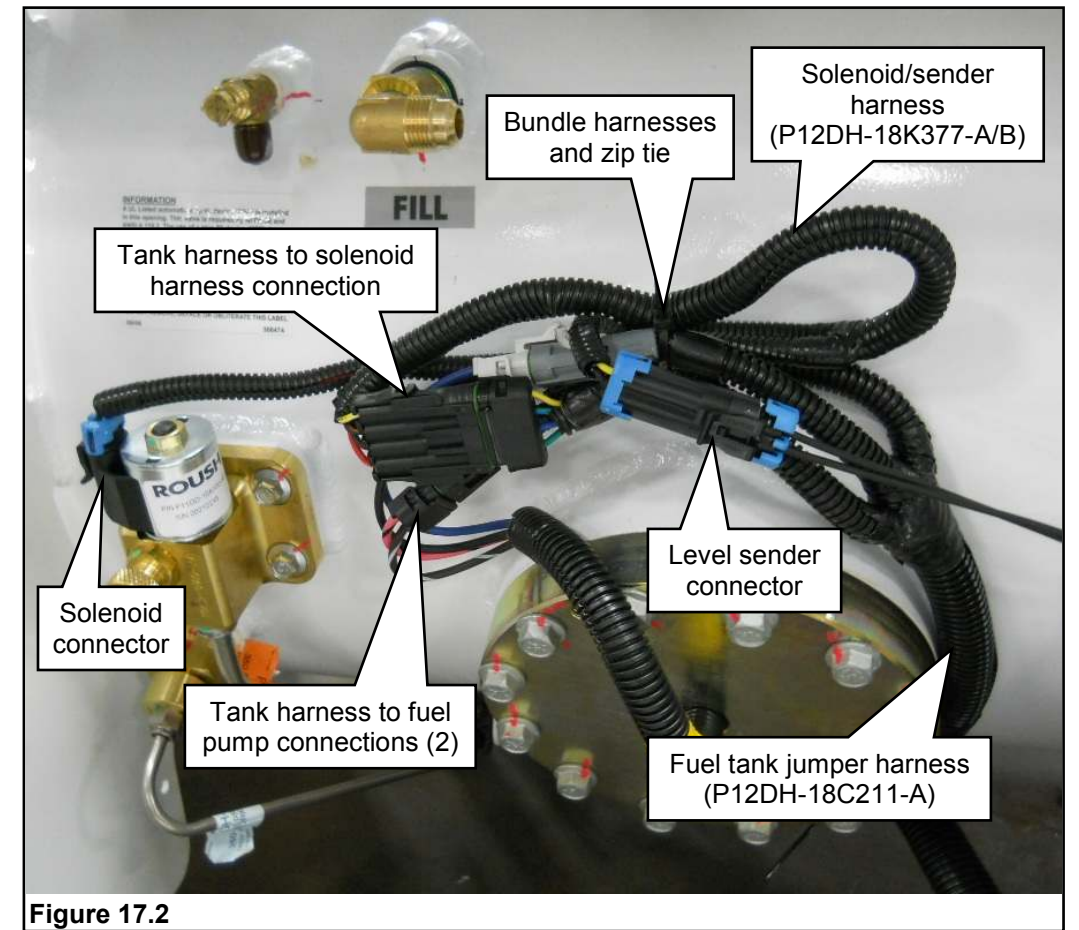

Figure 17.2
11. Connect the solenoid/sender harness to the fuel supply solenoid and to the fuel level sender. **Figure 17.2.**
12. Connect the fuel tank jumper harness to the solenoid/sender harness and to the two fuel pump connectors. **Figure 17.2.**
14. Bundle the two harnesses together and zip tie to the welded bracket above the tank cover plate. **Figure 17.2.**